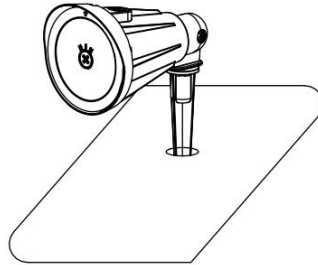

Fig. 9
3. Tighten the fixture to the base as shown in Figure 9.
2. Tighten the fixture to the spike, as shown in Figure 9.
2. Serrez la fixation sur le crampon, comme indiqué dans la figure 9.